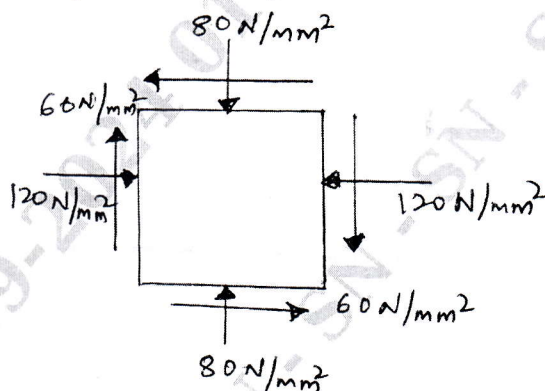

Fig.Q4
- 4 The state of stress at a point in a strained material is shown in Fig.Q4. Determine: